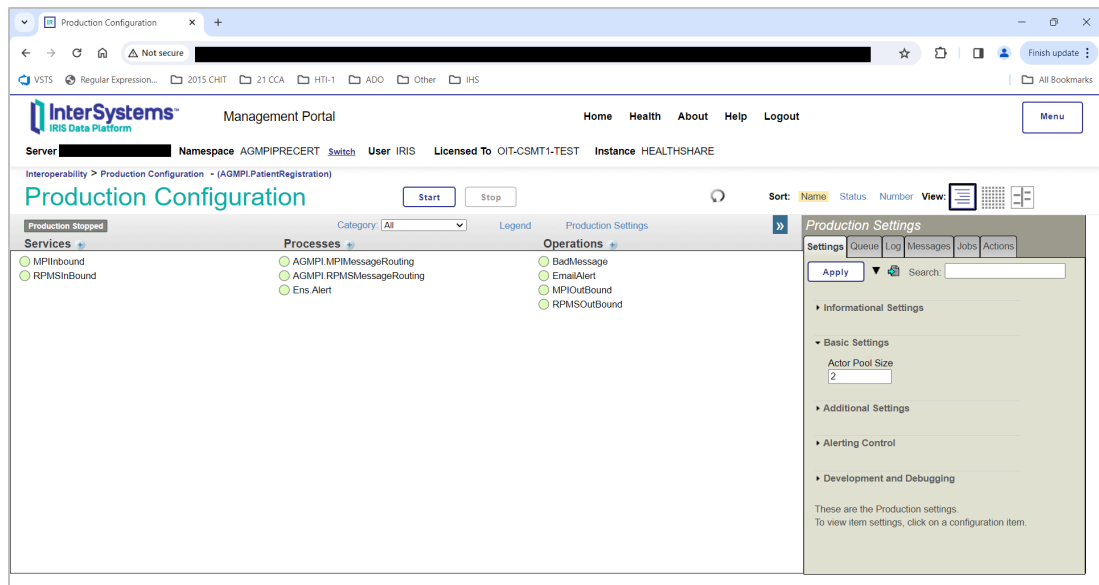

Figure 5-6: Production Configuration page for AGMPI.PatientRegistration production
5. The **Production Configuration** page for the AGMPI namespace displays, as shown in Figure 5-6.
8. Once a production has been opened, and on subsequent visits to the page, the page displays the configuration for that production, as shown in Figure 5-6.